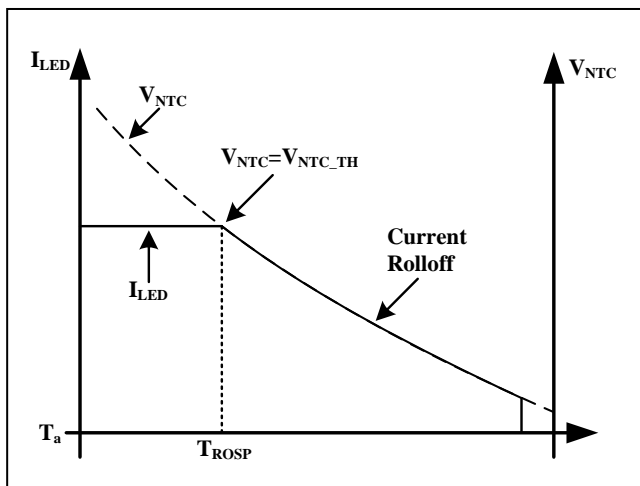

Figure 33 LED Thermal Rolloff Protection
Due to the negative temperature coefficient characteristic of the NTC thermistor, the  $V_{NTC}$  gradually reduces following the temperature ramping up. The output current is constant until  $V_{NTC} = V_{NTC\_TH}$ . As shown in Figure 33, assume that the desired temperature point of current rolloff start is  $T_{ROSP}$ . With a given NTC thermistor, the NTC resistance ( $R_{NTC\_ROSP}$ ) at  $T_{ROSP}$  temperature point can be found in its datasheet. Put into Equation (8) to decide  $R_{TRO}$  value: